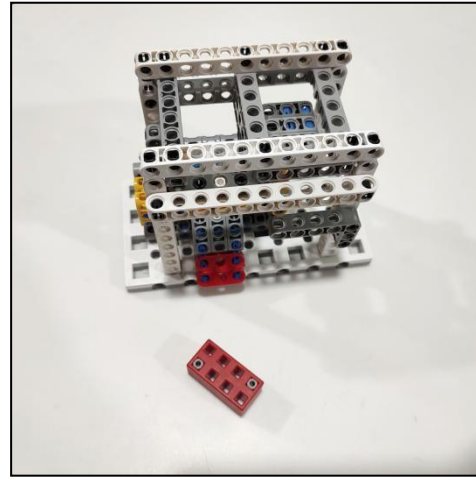

Figure 3-3-4 Finished Position
3.3.2 30 points are granted when the robot pushes the slab on the left side of the model to drop the battery from the platform to the basket as shown in figure 3-3-2. Additional 40 points are granted when the robot push back the battery to the left side of the model as shown in figure 3-3-3 and then release the battery by pushing down the handle as shown in figure 3-3-4. Last 50 points are granted when the robot brings back the battery to the base.